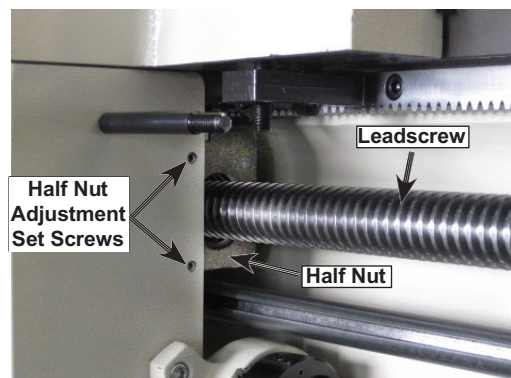

Figure 87. Half nut gib adjustment.
3. Turn the two half-nut adjustment set screws, shown in Figure 87, clockwise about 1/8th of a turn.